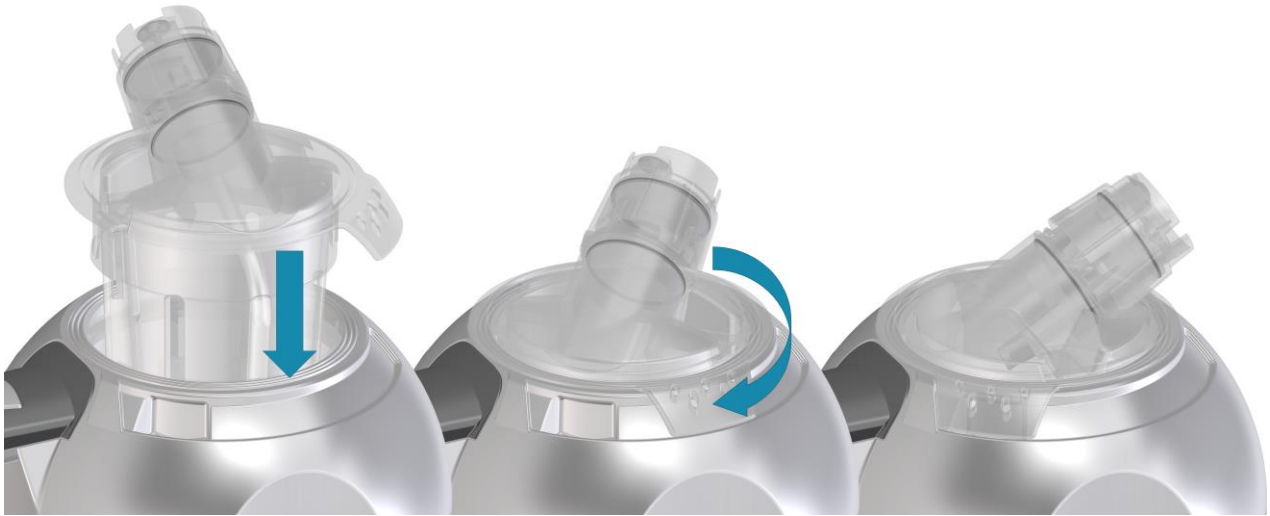

Figure 4 – Closing the lid
- ◆ Put the lid in place taking care to position it as shown in **FIGURE 4** and close it by turning it 90° clockwise.
- ◆ Close the lid as shown in **FIGURE 4**.
- ◆ Select the cleaning program by pressing and holding the cleaning button for three (3) seconds.
- close the lid as shown in **FIGURE 4** and leave to stand for 1 hour without heating